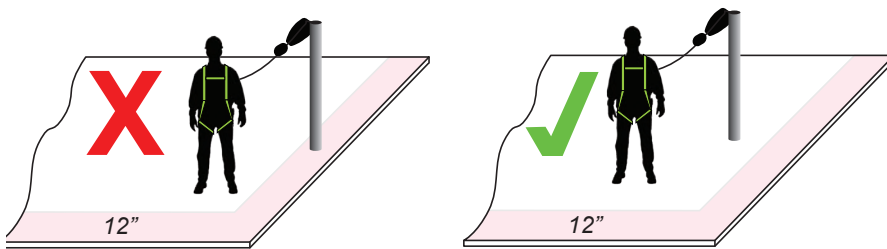

Figure SA 1
A. Use of the Whizzler and Post as a **single-point** anchorage does not allow for installation at the edge or corner of the deck (See Figure SA 1). Use as a **single-point** anchorage requires installation to be 12 in minimum distance from any corner or edge of the decking.